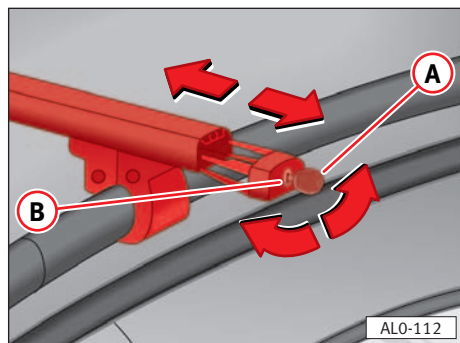

Fig. 116
- 1 – Turn key (A) inside lock (B) of the bar, and pull ⇒ fig. 116. ▶